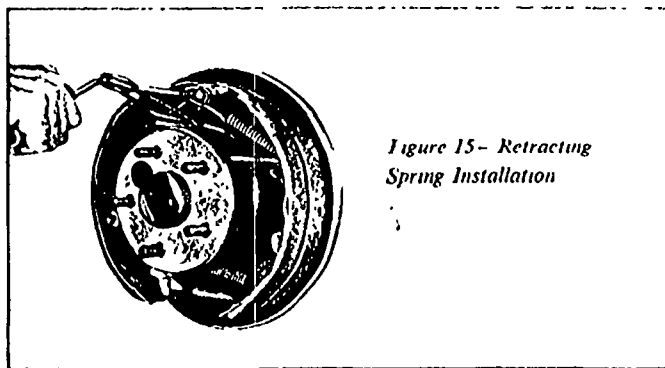

Figure 15- Retracting Spring Installation
6. Install the primary shoe to anchor spring (Fig. 15).
8. Install the secondary shoe to anchor spring with the tool shown in Fig. 15.